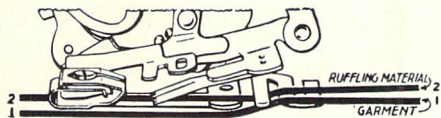

Fig. 65. Correct Positions for Materials.
1. Insert material to be ruffled between two blue blades and under separator guide (Line 2, Fig. 65).
2. Place material to which ruffle is to be attached under separator blade and under separator guide (Line 1, Fig. 65).